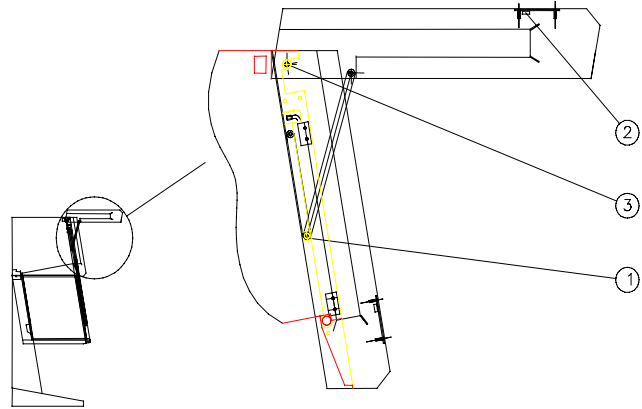

Figure 1
- Dismount the side cover positioned as shown in fig. 1 below.
Undo the screw for the gas spring, pos.1 -fig.1.
Pull out the plug for the control panel, pos.2 -fig.1.
Undo the screw for the front shield, pos.3 -fig.1.